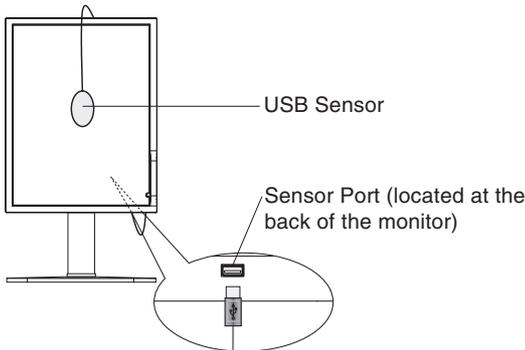
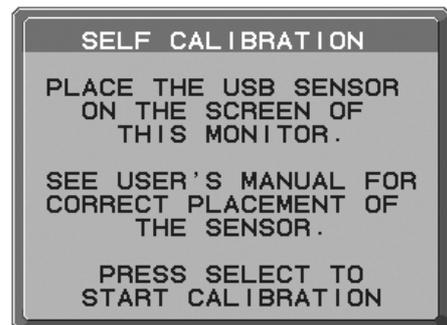

Figure 2
Figure 5
1. To show the CALIBRATION menu, plug-in the USB sensor to the sensor port (**Figure 2**) or select CALIBRATION in the advanced menu (page 20).
5. The procedure will ask for the USB sensor to be placed on the center of the display panel (**Figure 5**). Tilt the display panel approximately 5° backward and place the USB sensor in the center of the display panel (**Figure 2**).